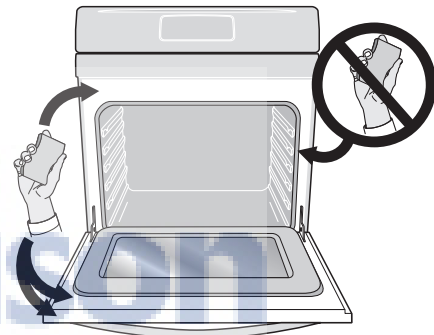

Figure 17: Clean around the oven door gasket
9. Wipe oven cavity and bottom. Do not clean oven door gasket (See Figure 17).